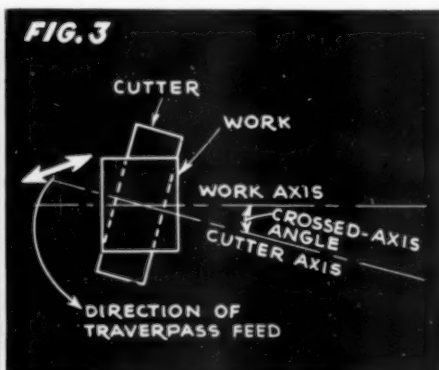

FIG. 3
2. TRAVERPASS—(Fig. 3) combined tangential and axial feed of the cutter. Evenly distributed cutter wear; cutters narrower than underpass. (Gears up to 5" face)